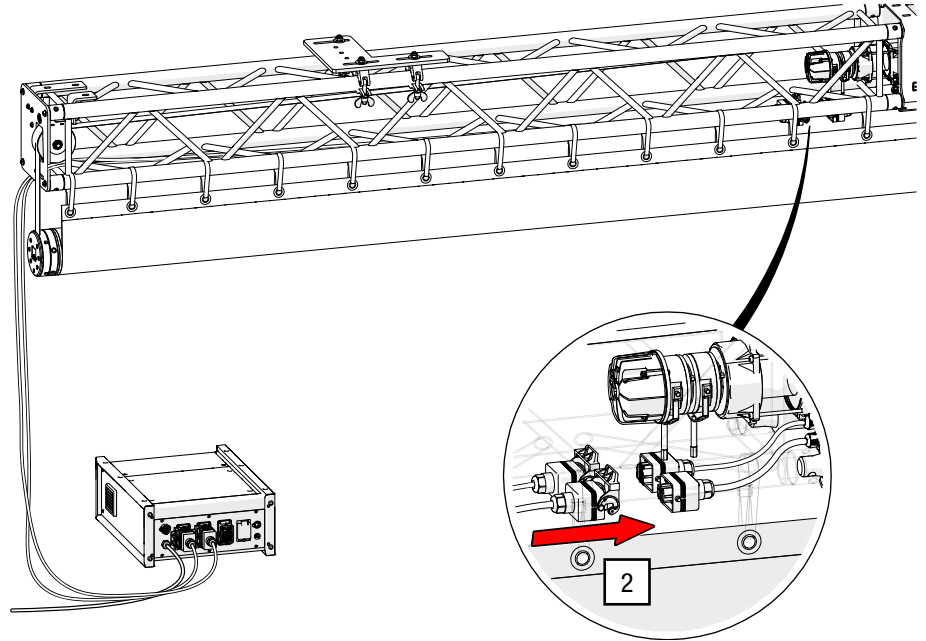

Fig. 29: Connecting the power and control cable to the roller screen
2. Connect the control and power cables to the control unit of the roller screen using the 1XXM1 and 1XSM2 connections on the control unit in advance (see Fig. 29).